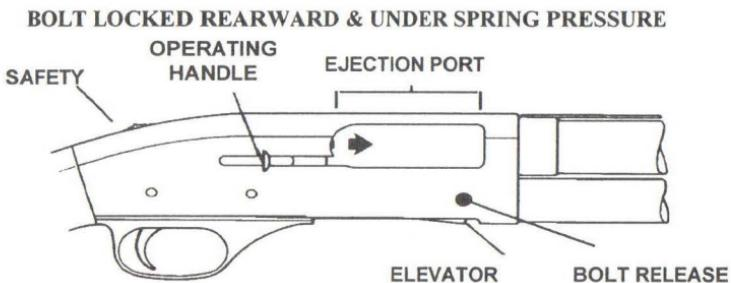
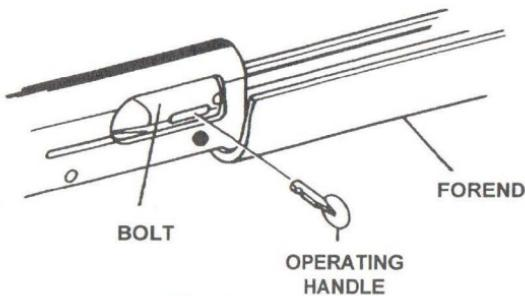
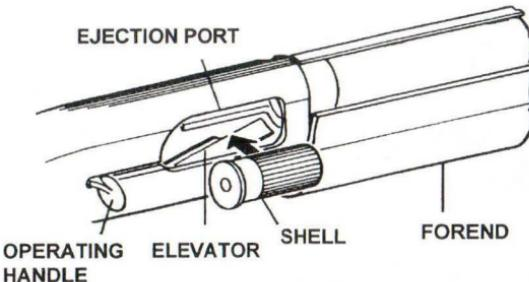

Fig. 3
Fig. 4
Fig. 8
The bolt is always under spring pressure. When the bolt release is pushed with the bolt locked rearward, the bolt is driven forward toward the muzzle with considerable force. Do not have fingers or other objects in the ejection port or near the operating handle (Fig. 3).
**The operating handle (Fig. 3) must be assembled securely in place in the action before the forend is removed.** Should handle not be in place proceed as follows (See Fig. 4). To assemble the operating handle, align the slot in the bolt with the slot in the action bar assembly, holding the operating handle with the notch rearward. Insert the handle through the slot in the action bar assembly. Push operating handle inward until plunger engages with notch in handle.
With fingers and other objects away from the ejection port and operating handle, push the bolt release (Fig. 3). The bolt should be driven forward under spring pressure and locked in the closed position. Grasp operating handle and pull bolt fully rearward to the locked position. The bolt should cycle smoothly without binding.
Keep fingers clear of operating handle and ejection port when closing action (See Fig. 3).
Open the action by pulling the operating handle completely rearward until it locks in the open position (Fig. 3).
If you wish to load the firearm with the maximum number of shells or fire single shots, load the first shell through the ejection port located on the right side of the receiver (Fig. 8). The shell can be inserted directly into the chamber or placed on top of the elevator. Close the action by pressing the bolt release (Fig. 3). Be sure to keep fingers and other objects out of the ejection port.
During firing, the operating handle (Fig. 3) travels rearward with considerable force and velocity. Do not place hands or other objects in its path.